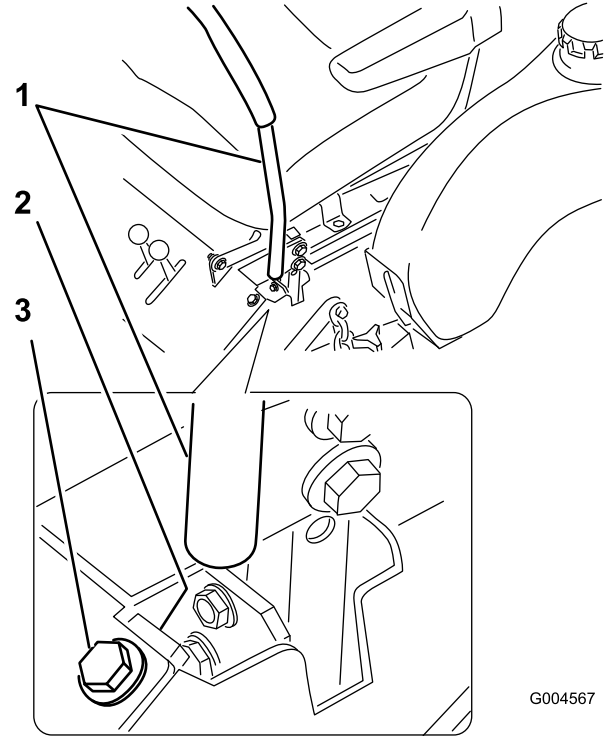

Figure 48
3. Move the stop until the machine drives straight (Figure 48).
4. Tighten the bolt located in front of the control lever (Figure 48).